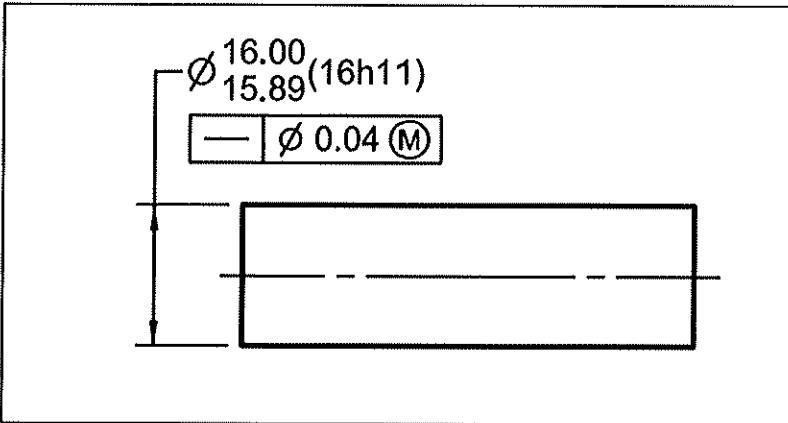

Figure-2
11. [5] Draw theoretical gage for the straightness specification below in Figure-2.
12. [5] Draw theoretical gage for the straightness specification in Figure-2 if it were specified RFS (without the MMC symbol).